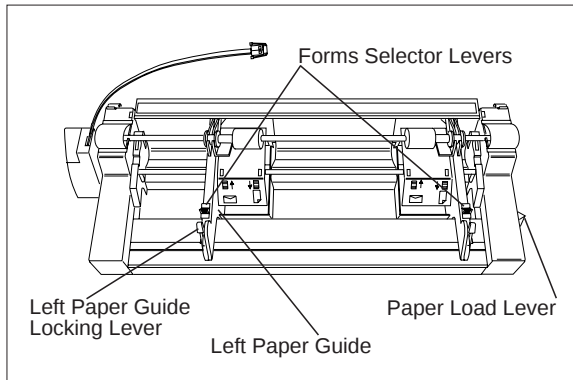

Figure 1. ASF Paper Load Levers, Paper Guides, and Forms Selectors. The length of this attachment card is approximately 248 mm (9.7 in.).
- The paper load lever is located on the right side of each bin when viewed from the rear of the printer. See Figure 1.
- Standing behind the printer, set the inside edge of the right paper guide to the scribe mark and use the paper guide locking lever to lock the position. See Figure 1.
- Slide both selectors toward the printer to feed envelopes or card stock. See Figure 1.